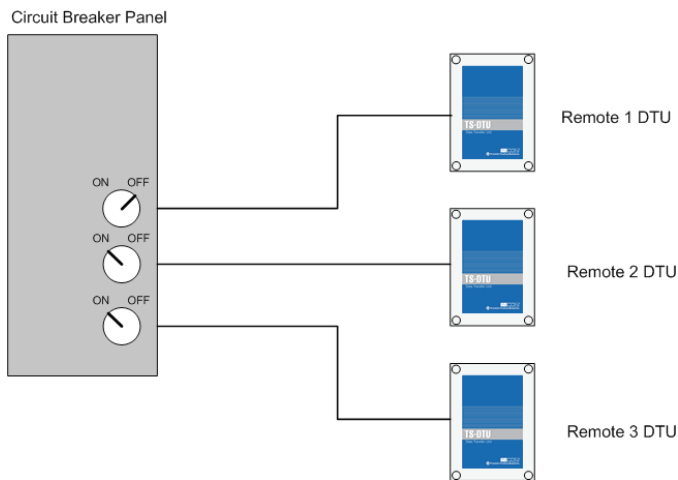

Figure 1: Example of Dispenser 1 (Remote 1 DTU) Shutdown
1. Dispenser is powered down. A Remote DTU is powered from the dispenser power. If the dispenser was powered down for any reason it will result in a “Remote DTU is Offline” alarm. See Figure 1.
1. Multiple “Remote DTU is offline” alarms occur at the same time (Refer to Figure 1).